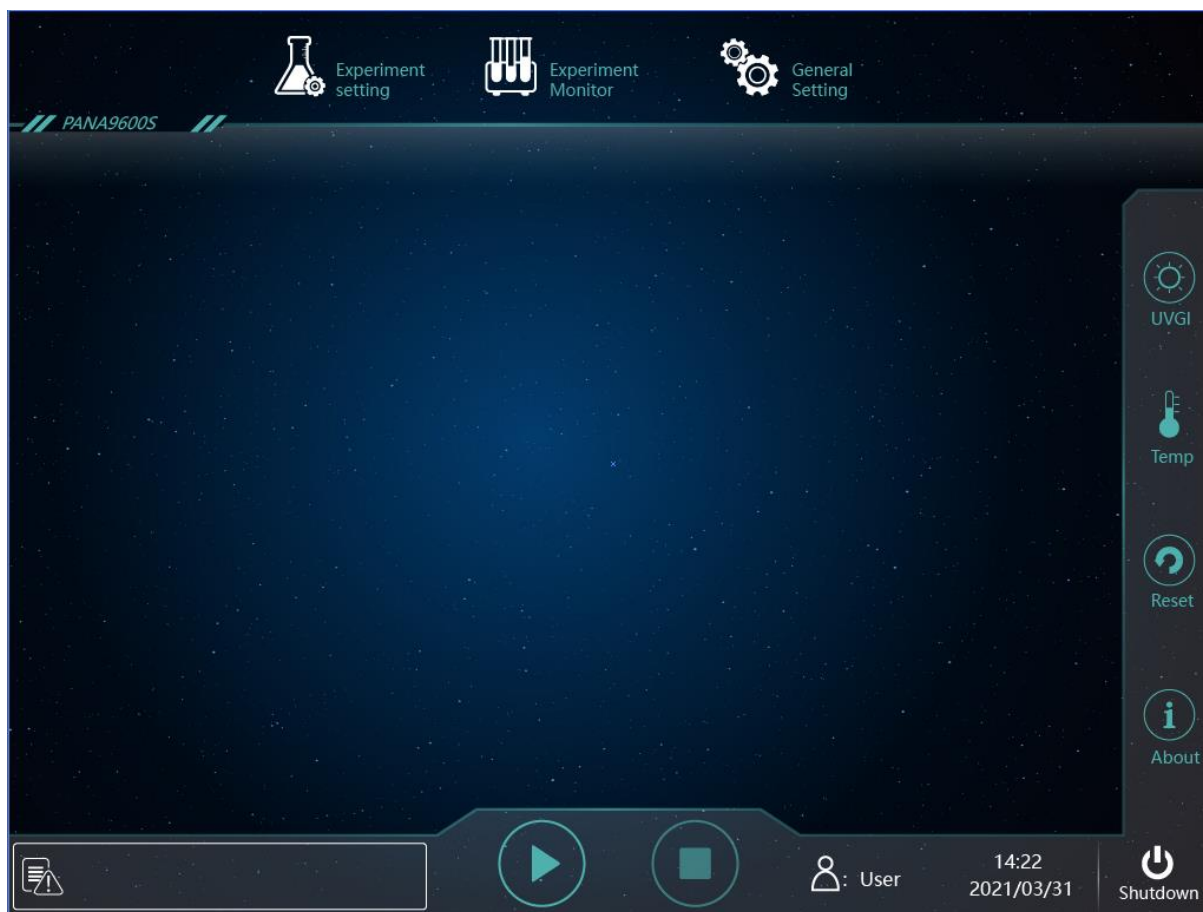

Figure 4-3. PANA System Software - Main Interface
**3rd Step:** After login the PANA system software, the touch screen of the master computer will display the main interface, as shown in figure 4-3.